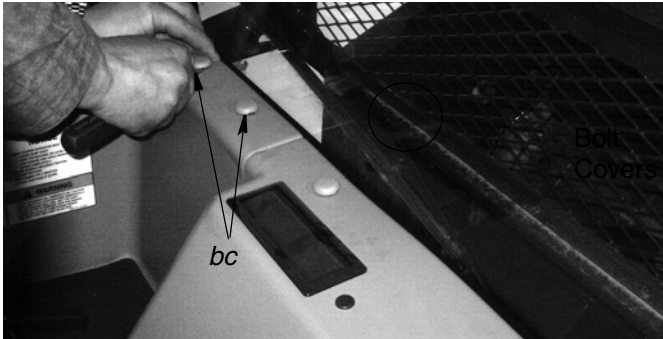

FIG. 75
13. Remove bolt covers (*bc*), bolts and washers from cab cover panel located on the right side of the cab, next to the driver's seat as shown in FIG. 75. Remove the convenience center from its installation location to access the electric connections.
14. Remove bolt covers (*bc*), bolts and washers (*w*) from the panel behind the driver's seat as shown in FIG. 75. Keep washers (*w*). They will be used for GLC2200 installation.
- e. Adjust bracket fasteners (g) (installed in Step ) for installation in the cab; matching the holes in the brackets to the location of the bolt holes available after removing the bolt cover and bolts in Step 14 (FIG. 75, page 39).
2. Install the assembled bracket and GLC2200 to the mounting holes exposed in Step 14 (FIG. 75, page 39). Use bolts (b) and washer (c) and washer (w) to secure bracket fasteners (g) to the holes.